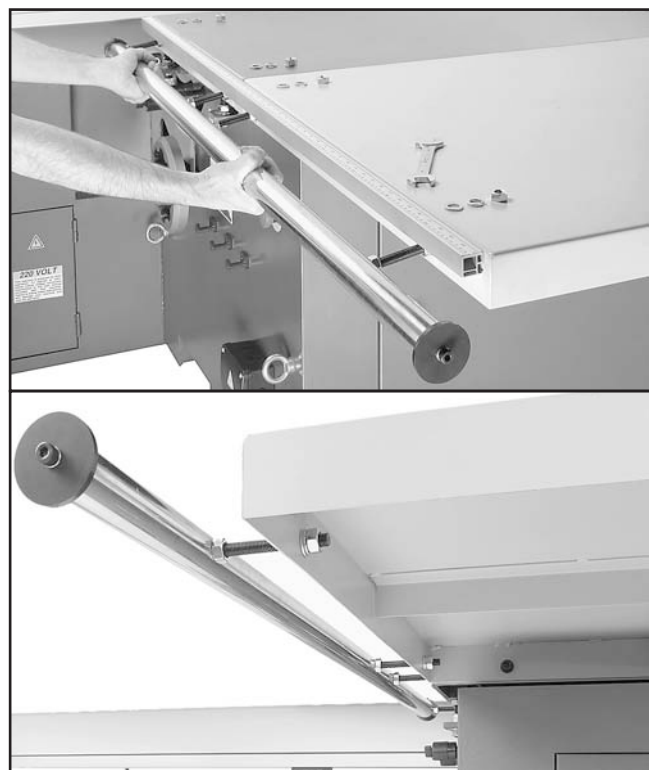

Figure 29. Installing the round rail.
12. Insert the studs into the tables as shown in **Figure 29**. Put a 12mm flat washer, 12mm lock washer and a M12-1.75 hex nut on the end of each stud to hold the round rail on the tables. Do not tighten the hex nuts at this time.